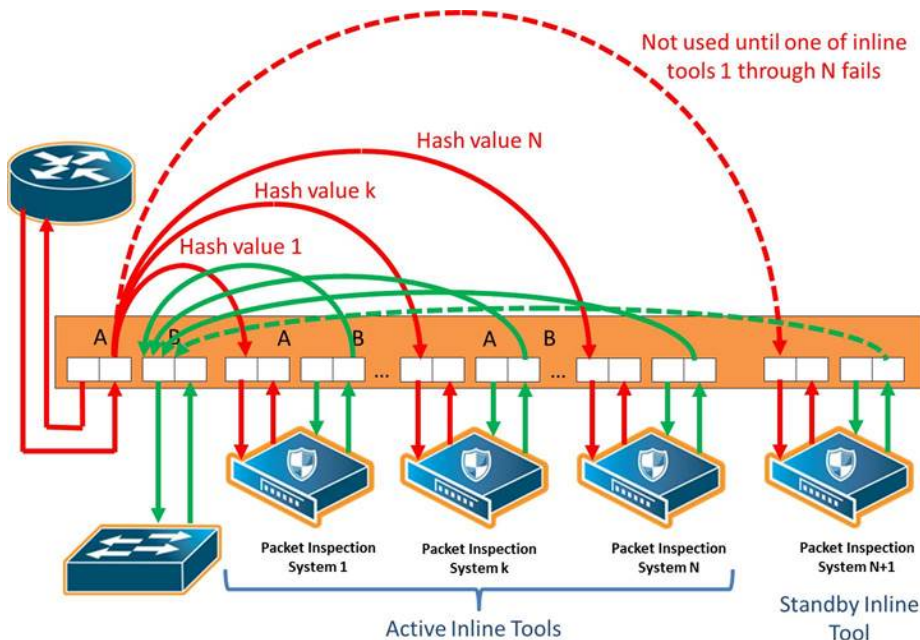

Figure 32 Inline Tool Group With Spare, Redundant N+1 Scenario
- N+1 redundancy—multiple inline tools that are considered active, with a standby inline tool that is only used if one of the active inline tools fails. Refer to Figure 32 Inline Tool Group With Spare, Redundant N+1 Scenario.
Refer to Figure 32 Inline Tool Group With Spare, Redundant N+1 Scenario for an inline tool group in an N+1 redundant scenario, in which N is greater than 1. In Figure 32 Inline Tool Group With Spare, Redundant N+1 Scenario, traffic is only shown from A-to-B.